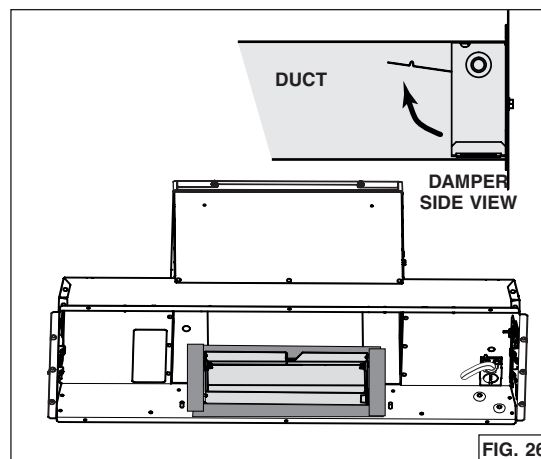

FIG. 26
- From inside the unit, slide the 3¼" x 10" adapter/damper in the horizontal duct, then attach it to the unit using aluminum duct tape all around the joint (FIG. 26). Ensure the damper opens as shown in damper side view.